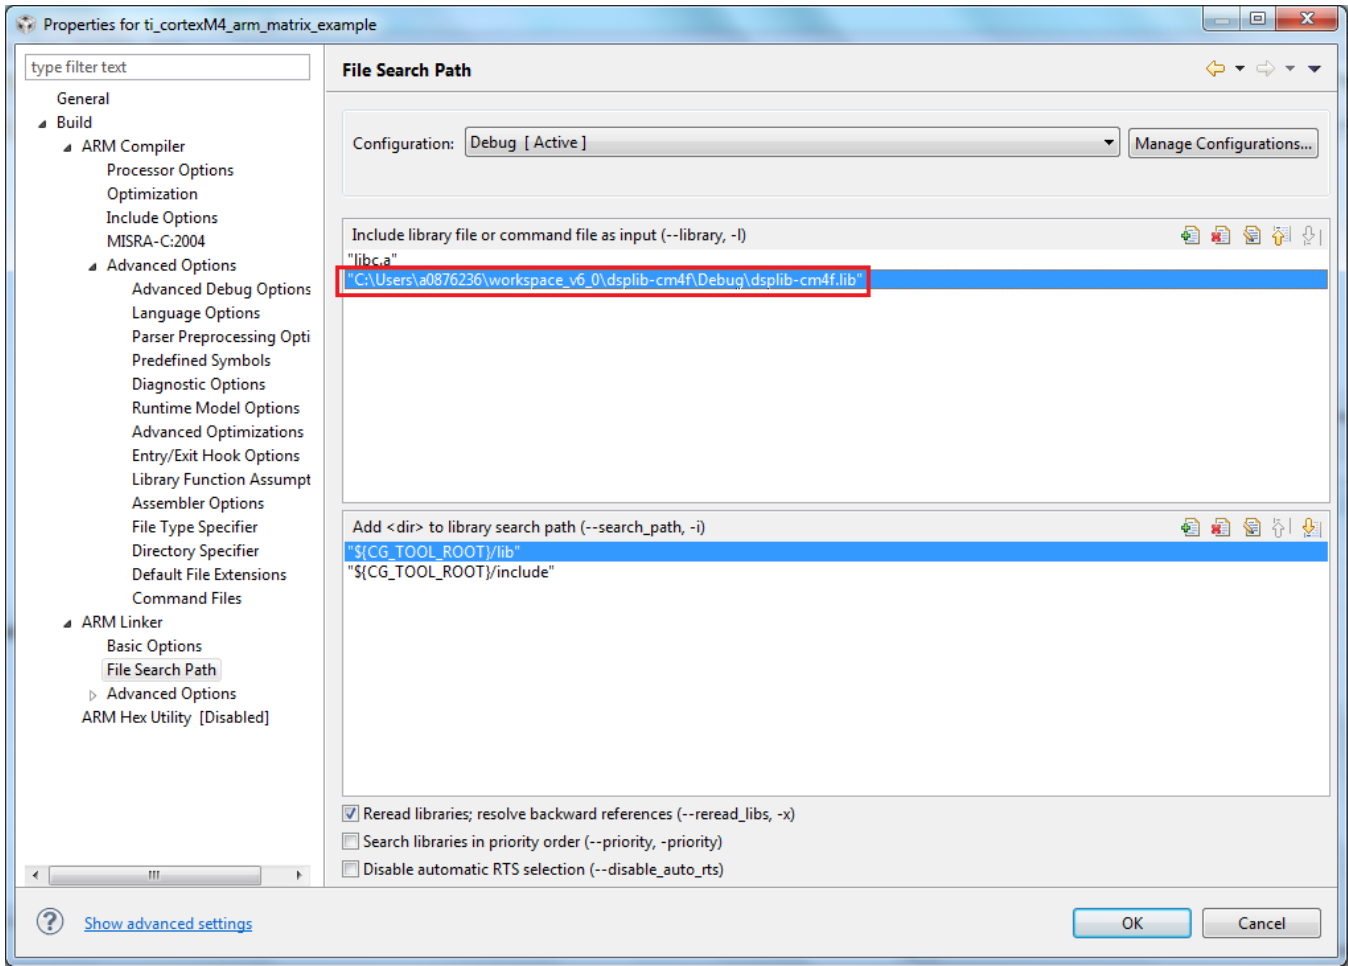

Figure 24. The Linker's File Search Path Modified to Include the dsplib Binary Compiled in Section 3
12. Create an entry for the precompiled CMSIS DSP binary (.lib) that will be used in the *Include library file or command file as input* (`--library, -l`) area (see Figure 24). For this example, the library file created in section three will be used, so click on the *Add...* button, then the *File system...* button and navigate to the location of the .lib you want to use. If you built the precompiled binary from scratch as detailed in section 3 without changing the default project location, the .lib will be found at `C:\Users\<user_name>\CCS workspaces\<your workspace>\dsplib-cm4f\Debug\dsplib-cm4f.lib`. When you have found the binary, click **Open**, then **OK**.